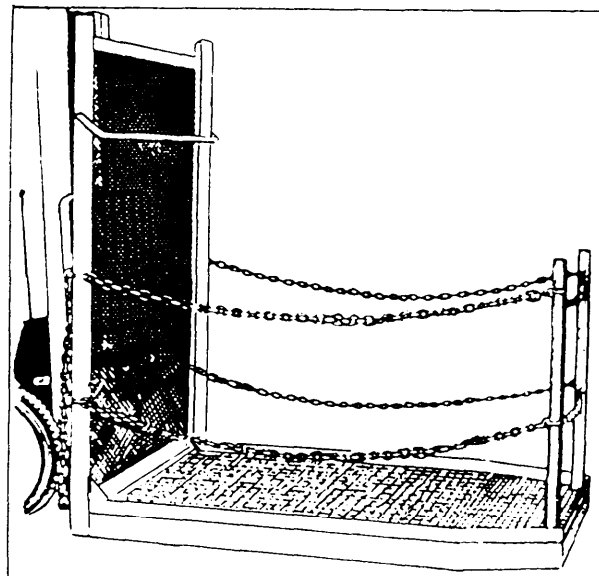

Figure 8-25.—Safety platform.
2. Use a secured safety platform when lifting personnel. A forklift is built for only one rider—the operator. Because of the hazardous conditions that can result, it is unauthorized for anyone to ride the forks of a forklift or hitch a ride in any manner. If a forklift is used to elevate workers, a safety platform must be secured to the forks. The platform should be specially built and secured to keep it from slipping from the forks, and it should have a solid floor and handrail (fig. 8-25).